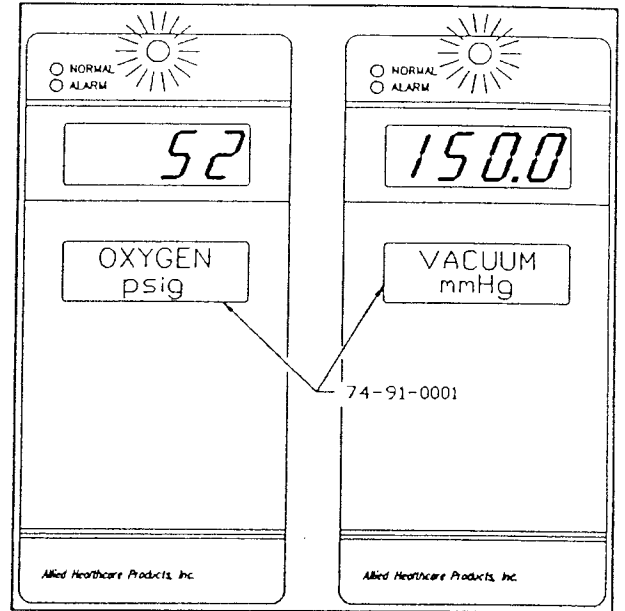

Figure 3 - Pressure/Vacuum Module
- 1.3.3.1 The Pressure/Vacuum Module (see Figure 3) displays the output from the Control Module with its Liquid Crystal Display (LCD). During power up and after reset, it tells the Control Module what type of a module it is set to be. It can be set to be a low pressure (0 to 100 PSIG), or high pressure (0 to 250 PSIG for software revision below 4.0 and 0 to 300 PSIG for software revisions 4.0 and greater), or as a Vacuum (0 to 30 inches Hg) Module.
- 2.2.1 The Pressure/Vacuum Display Module (see Figure 3) contains a LCD that provides continuous pressure/vacuum readings for a single gas pressure or vacuum line. During normal operation, a dual color LED will remain green. Once the pressure monitor deviates by more than  $\pm 20\%$  from the nominal, the LED will turn red. When monitoring vacuum lines, the LED will turn red when the vacuum level drops below the minimum vacuum level.